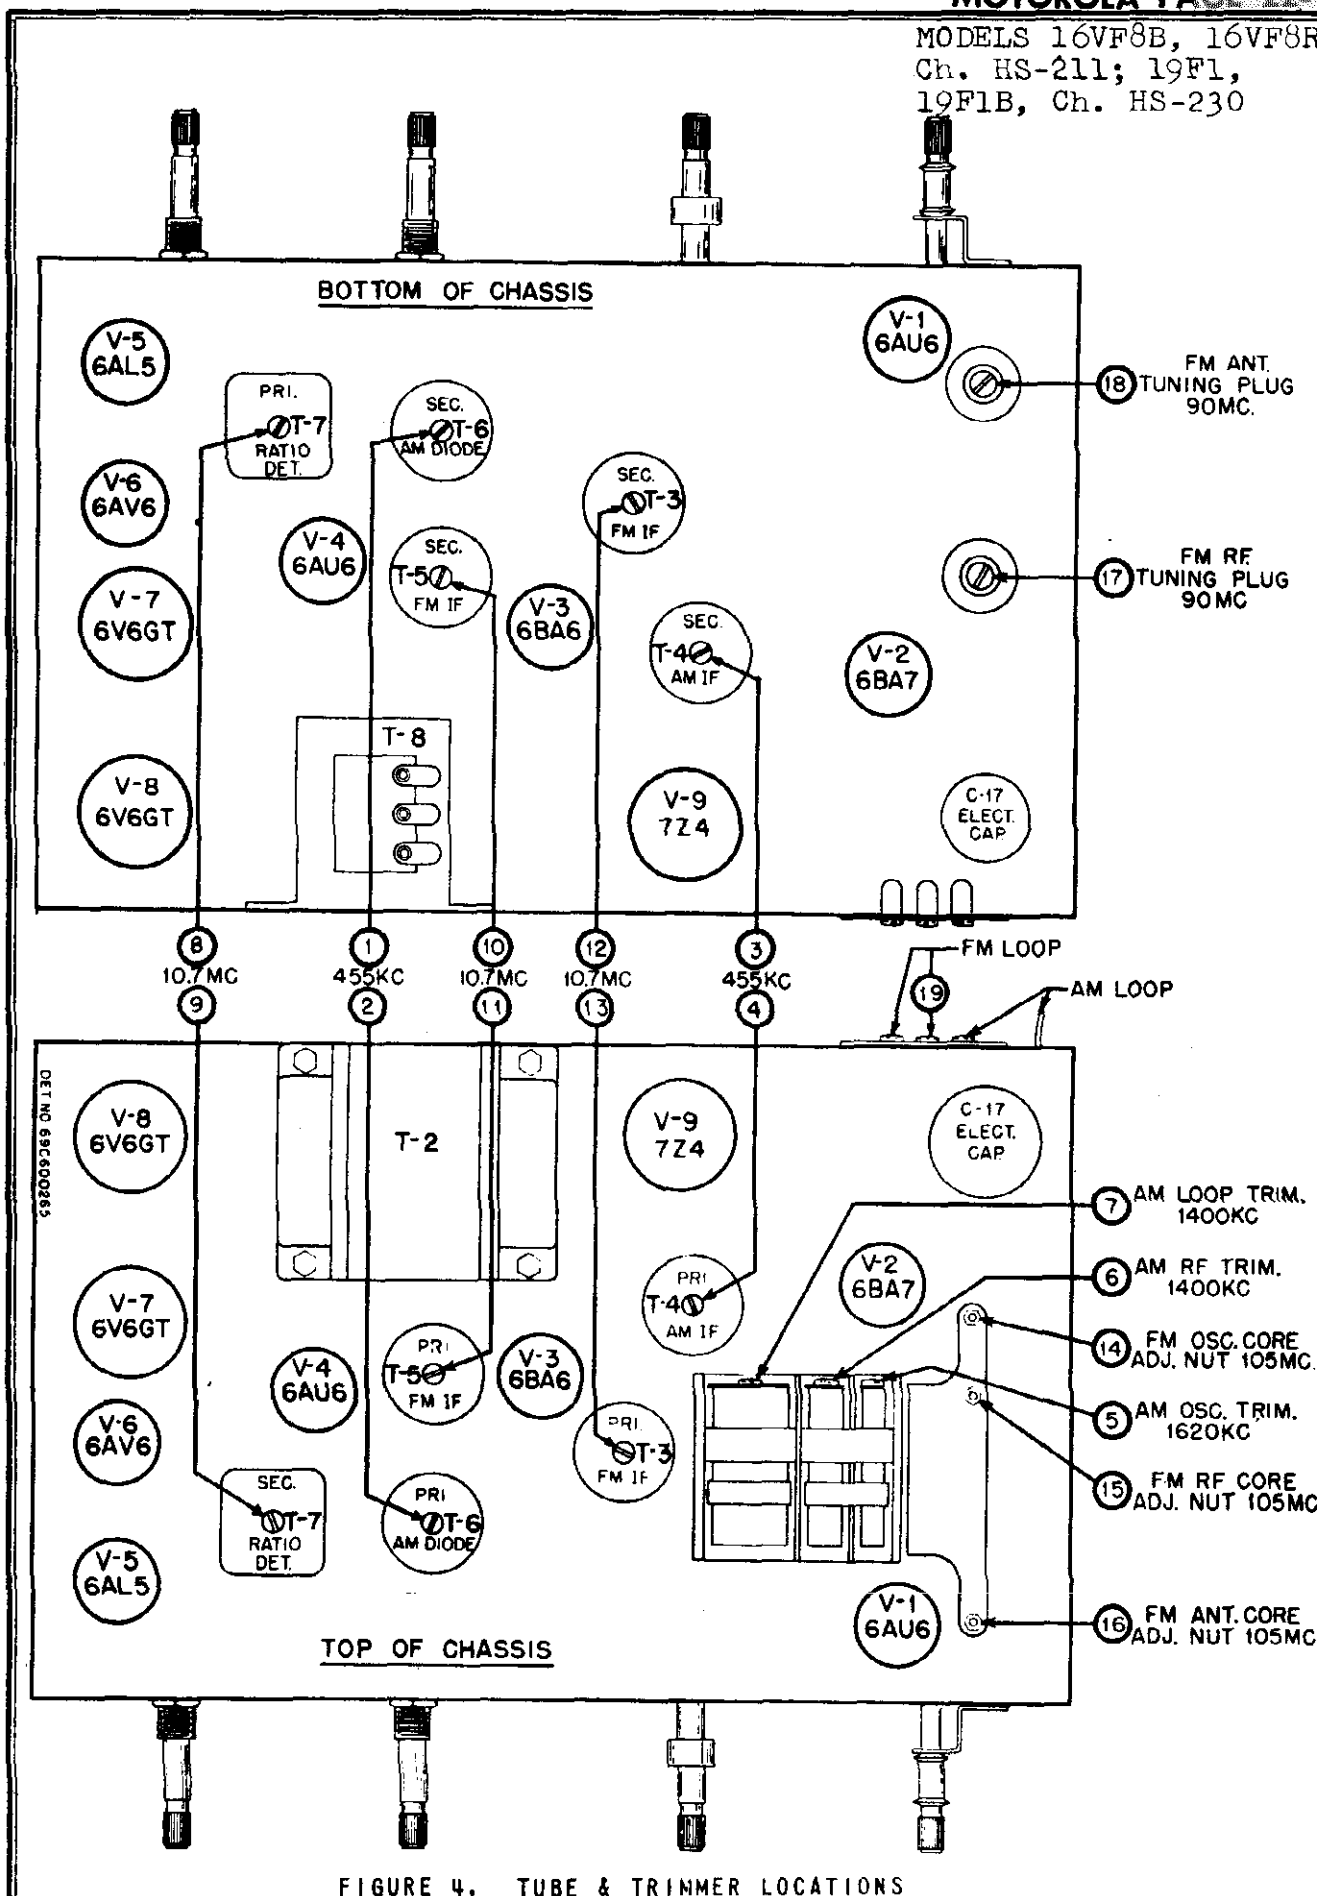

FIGURE 4. TUBE & TRIMMER LOCATIONS
3. Refer to Figure 4 for the location of all alignment trimmers and cores.